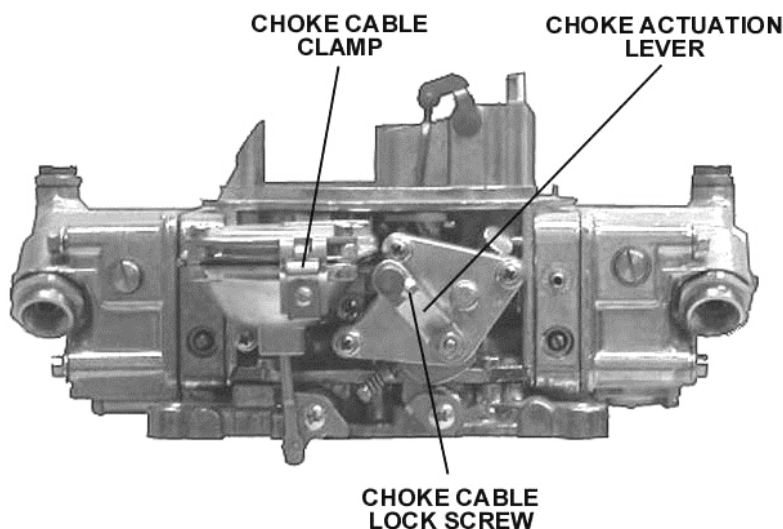

Figure 7 Manual choke parts (0-3310S shown)
- A. Connect the choke control cable (Holley® P/N 45-228) to the choke actuation lever, and lock in place with the choke cable lock screw (Figure 7).